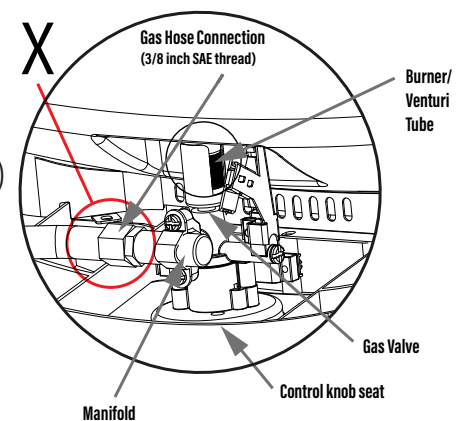

FIG. 1 - VIEW FROM UNDER CONTROL PANEL
2. Visually check the connection between the burner/venturi tube and orifice (see FIG. 1)
5. Use a spoon or spray bottle to apply the solution you made to all locations marked with an 'X' (shown in FIGS. 1 and 2).